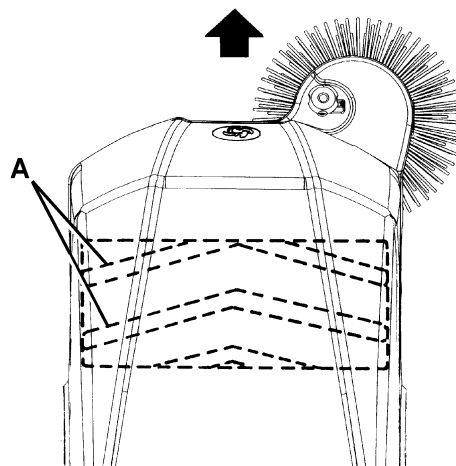

Figure 9
10. The new main broom must be installed with the bristles rows (A, Fig. 9) bent as shown in the figure.
- Check that the side broom print is as shown in the figure (A, Fig. 9). If the print is not within the specifications, adjust the side broom height as shown in the following steps.